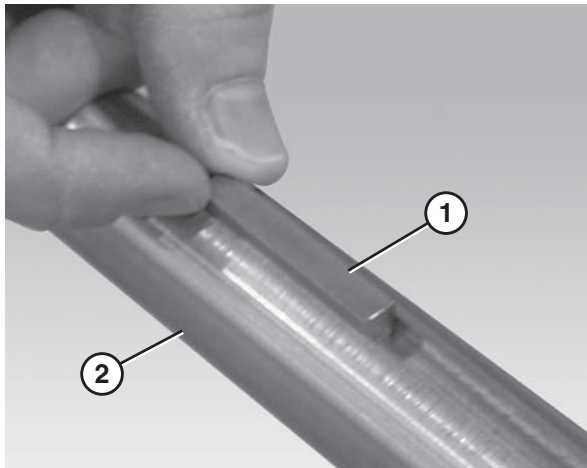

Figure 19
1. Insert the drive spindle key (Figure 19, item 1) into the drive spindle keyway (Figure 19, item 2).